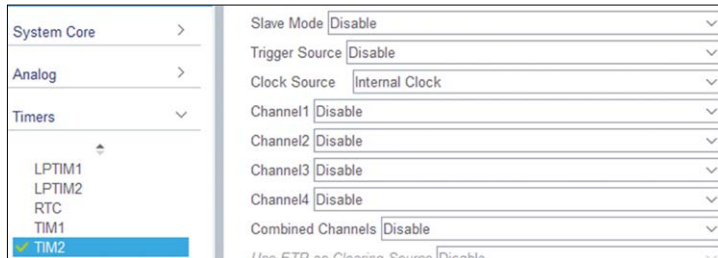

Figure 6.3: Select Internal Clock for TIM2.
- Click **Timers**, then click TIM2, and select the **Clock Source** as **Internal clock** (Figure 6.3).